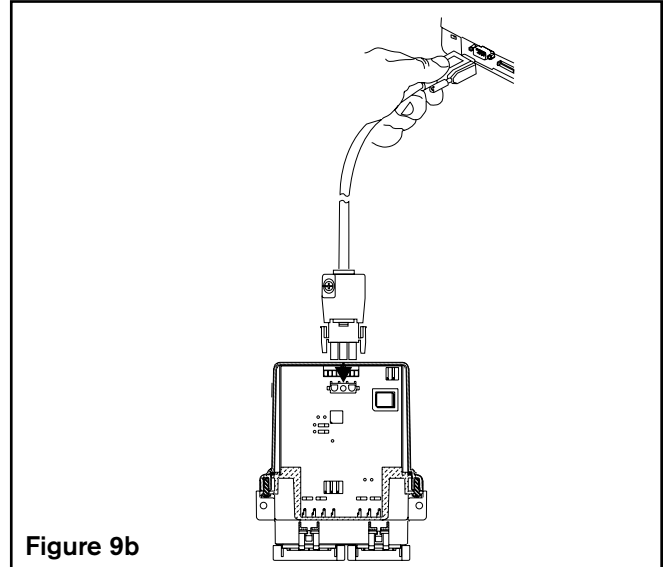

Figure 9b
2. Connect the RSD Communications cable from the PC to the Auxiliary RS232 Port (see Figure 9b).